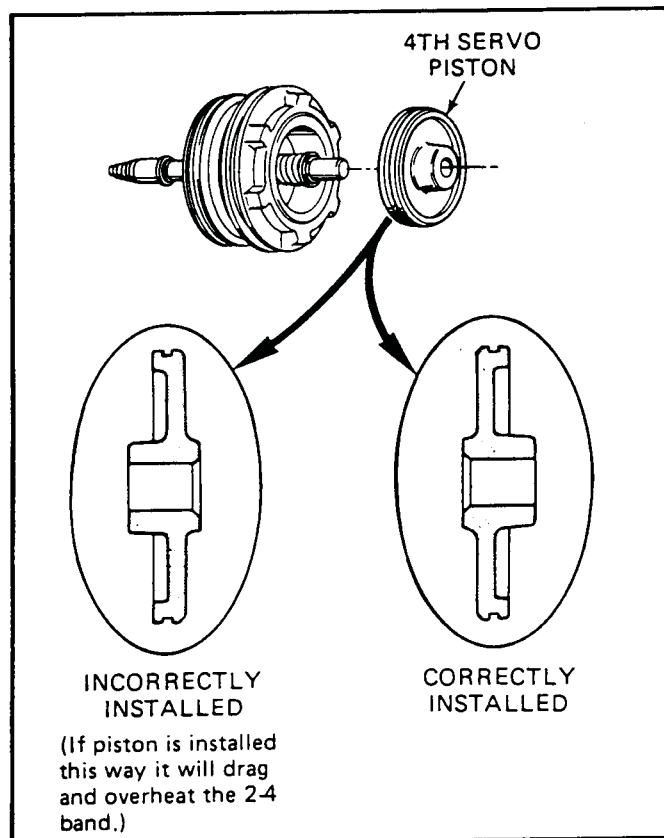

Figure 119
15. Install the 4th apply piston onto the servo apply pin (Refer to Figure 119 for proper assembly).